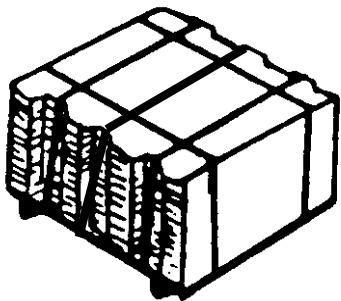

Figure 3, Flat Sheet
**Material must be packed on skids. Minimum weight per skid is 1,500 pounds; maximum weight per skid is 6,000 pounds. Sheet scrap should be secured with not less than five 3/4" x .025" steel straps or five 3/4" x .030" aluminum straps (see Figure 3). Extra straps may be required to prevent metal stacks from shifting in transit.**